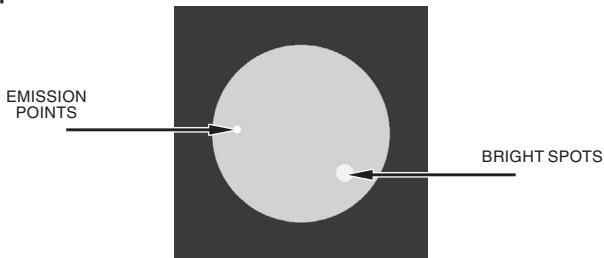

FIGURE 2.5. BRIGHT SPOTS AND EMISSION POINTS
(1) Bright Spots. A bright spot is a small, nonuniform, bright area that may flicker or appear constant (Figure 2.5.). Not all bright spots make the MUNVM rejectable. Cup your hand over the objective lens to block out all light. If the bright spot remains, return the MUNVM to the maintainer. Bright spots usually go away when the light is blocked out. Make sure any bright spot is not simply a bright area
(2) Emission Points. A steady or fluctuating pinpoint of bright light in image area that does not go away when all light is blocked from the objective lens of the monocular (Figure 2.5.). The position of an emission point within the image area does not move.